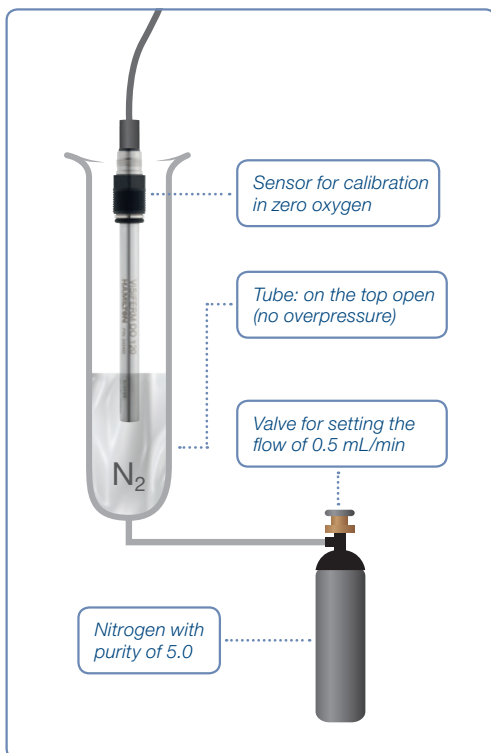

Figure 21: Zero point calibration setup
- 6) Immerse the sensor into an oxygen-free environment (Figure 21) for e.g. nitrogen gas with min. purity of 5.0 and nitrogen flow rate: 0.5 mL/min with 3 to 4 bar pressure (no overpressure). Let the system equilibrate and ensure stable conditions for at least three minutes.